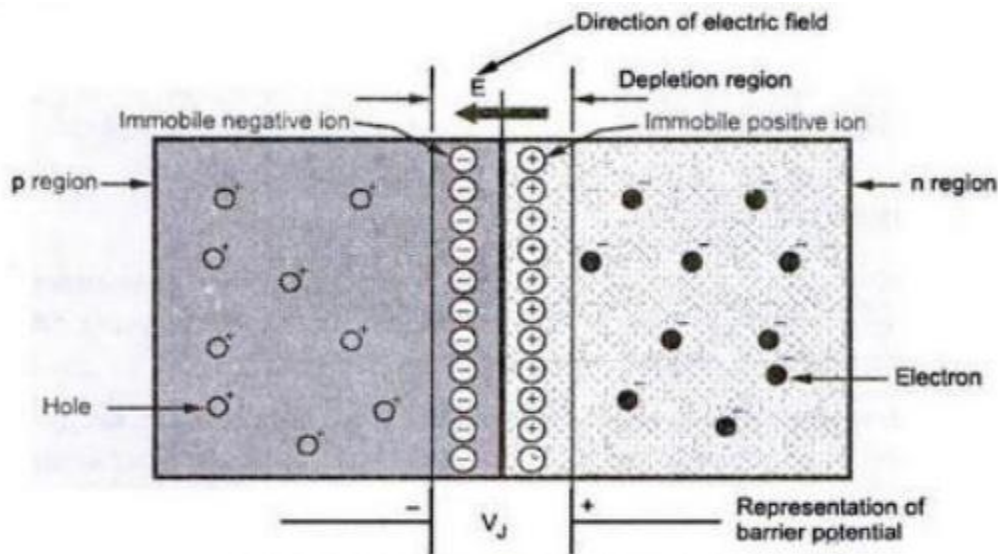

Fig. 1.3 Open circuited (No Biasing) PN Junction
- Figure 1.3 shows the open circuited PN Junction.